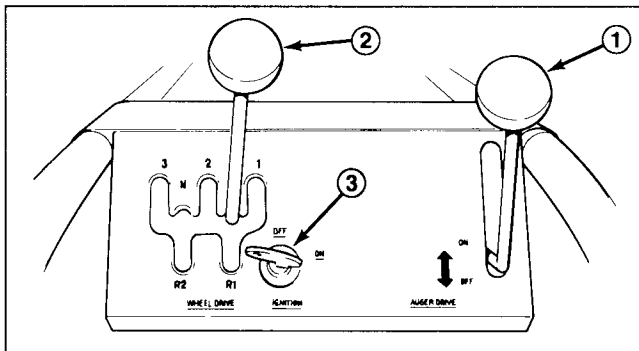
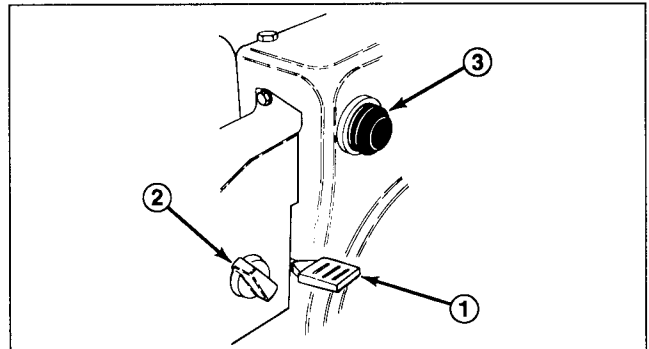

Figure 17
Figure 18
1. Move auger drive control to OFF (disengage) position (Fig. 17).
2. Move wheel drive control (Fig. 17) to N—neutral—and throttle (Fig. 18) to FAST.
4. Move choke to full choke position (Fig. 18).
5. Rotate ignition key to ON (Fig. 17).
6. Depress primer (Fig. 18) three times.
8. After engine starts, immediately move choke (Fig. 18) to 3/4 position. As engine warms up, move choke to 1/2 position; then to OFF position. If engine falters, return choke to 1/2 position. When engine warms sufficiently, move choke to OFF position.